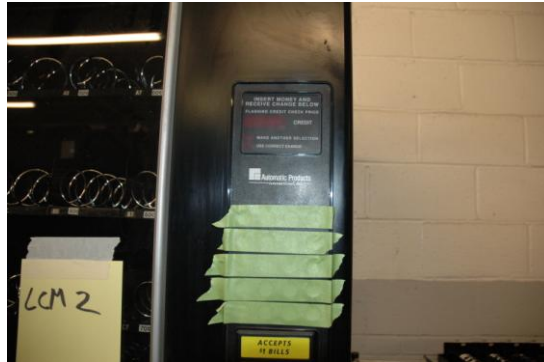

Figure 2
6. Apply Tape to selection buttons as shown to prevent buttons from falling out of display frame in step 7. Remove the top six 1/2" speed nuts securing the display/pushbutton frame to the door. Leave the bottom two speed nuts in place. Save speed nuts. See Figures 2 and 3.